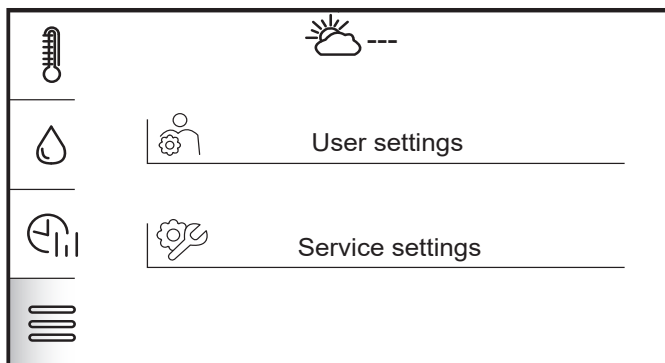

Figure 12-3: User Settings
3. Tap settings menu. Refer to Table 7-1 and Figure 12-3.